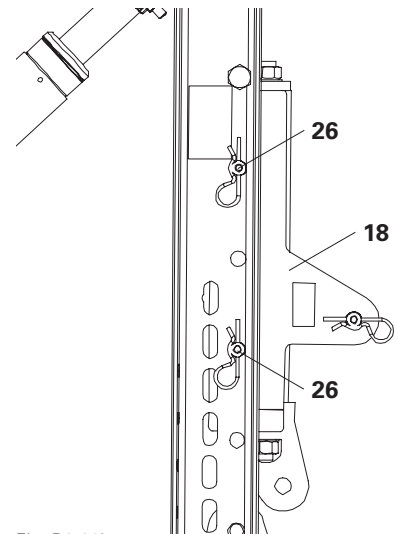

Fig. B3.02b
8. Adjust the position of the spacer in the vertical Steel Waler SRU U120 (1d) so that the Adjusting Unit VARIOKIT (18) can be installed if these collide (see Section A6)
9. Fit the Adjusting Unit VARIOKIT (18) onto the vertical Steel Waler SRU U120 (1d) using 2x fitting pins Ø 21 mm (26). (Fig. B3.02b)